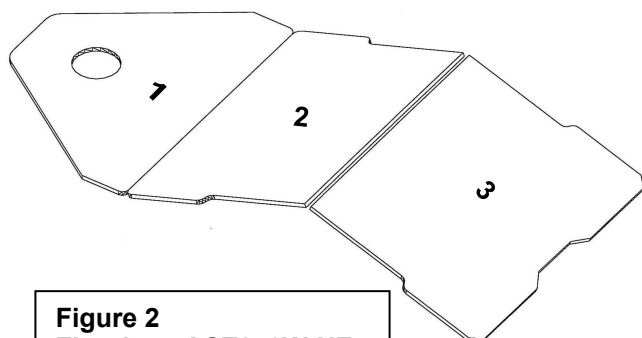

Figure 2
- Position the bottom in the order shown in figure 2 or 3 according to the model: